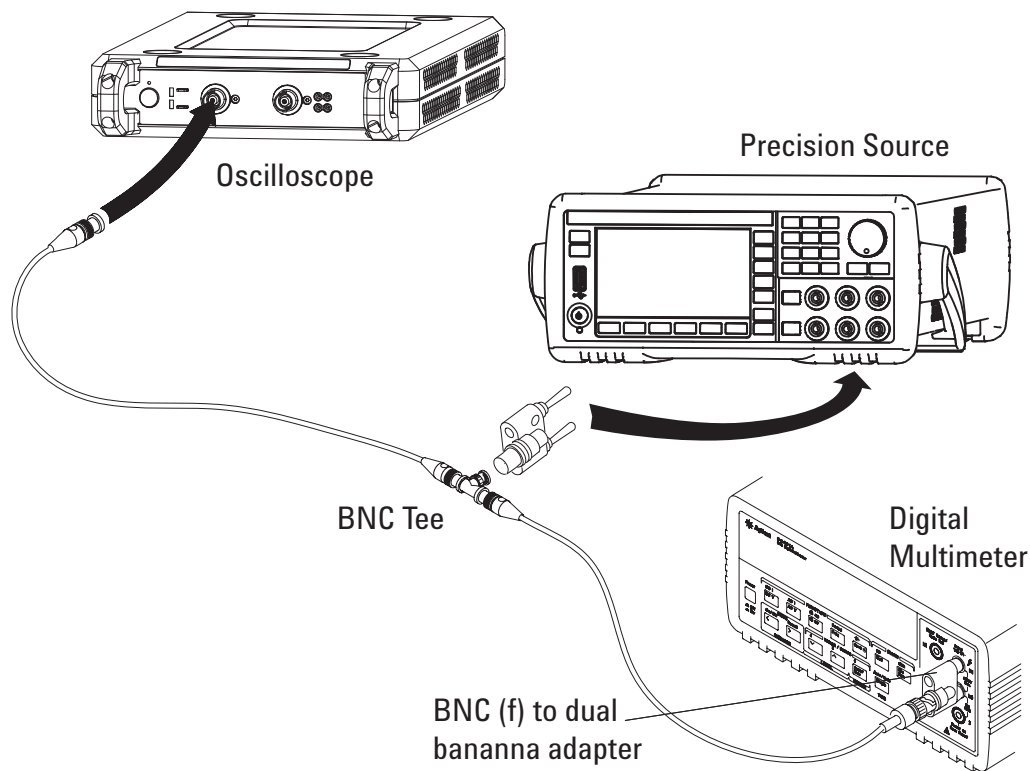

Figure 1 Setting up Equipment for DC Vertical Gain Accuracy Test
- 6 Use the BNC tee and cables to connect the precision source /power supply to both the oscilloscope and the multimeter (see **Figure 1**).